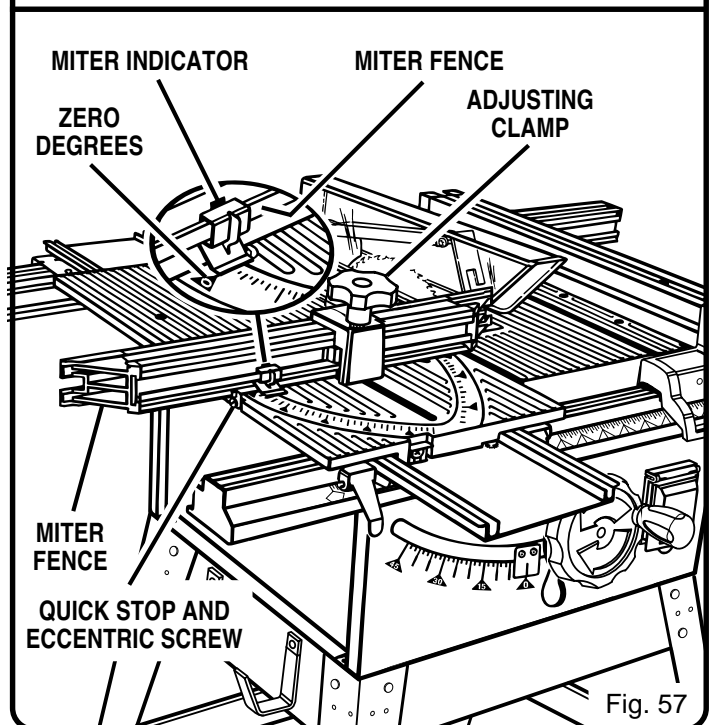

Fig. 57
- Place the quick-stop against the miter fence with miter scale set at 0° . See Figure 57.